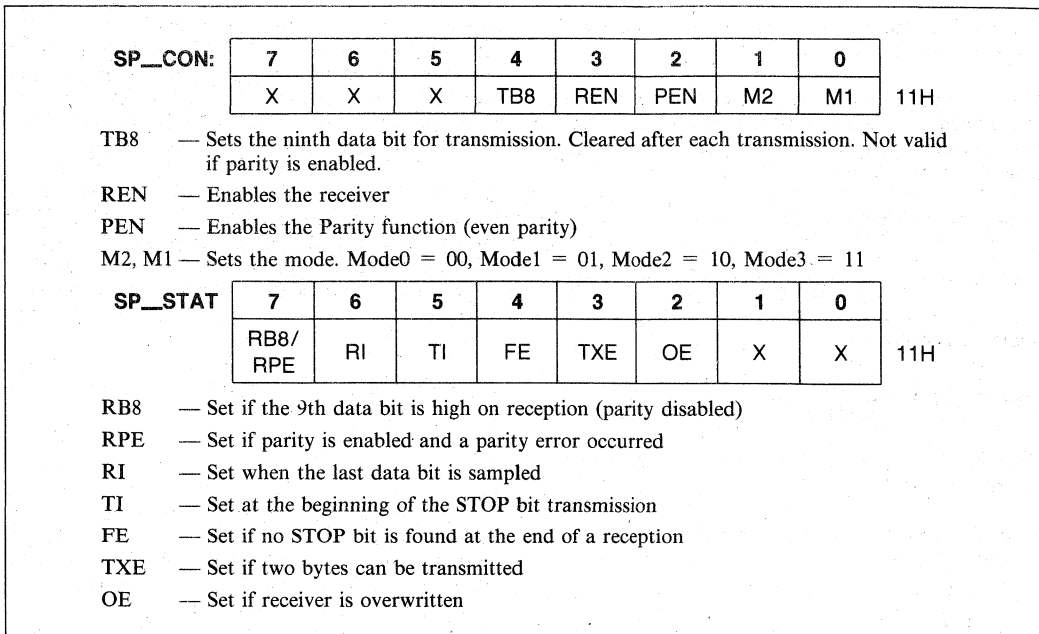

Figure 11-1. Serial Port Control and Status Registers
Control of the serial port is done through the Serial Port Control (SP_CON) register shown in Figure 11-1. Writing to location 11H accesses SP_CON while reading it accesses SP_STAT. The upper 3 bits of SP_CON must be written as 0s for future compatibility. On the 80C196KC the SP_STAT register contains bits to indicate receive Overrun Error (OE), Framing Error (FE), and Transmitter Empty (TXE). The bits which were also present on the 8096BH are the Transmit Interrupt (TI) bit, the Receive Interrupt (RI) bit, and the Received Bit 8 (RB8) or Receive Parity Error (RPE) bit. SP_STAT is read-only in HWindow 0 and is shown in Figure 11-1.